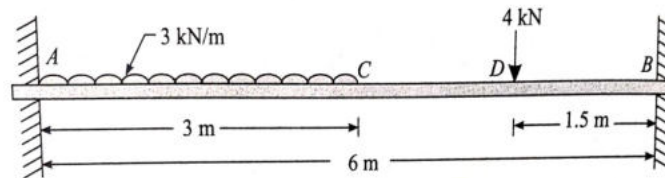

Figure 1.
2. A beam AB of uniform section and 6 m span is built at the ends. A uniformly distributed load of 3 kN/m runs over the left half of the span and there is in addition a concentrated load of 4 kN at right quarter as shown in figure 1. Determine the fixing moments at the ends and the reactions. [14M]